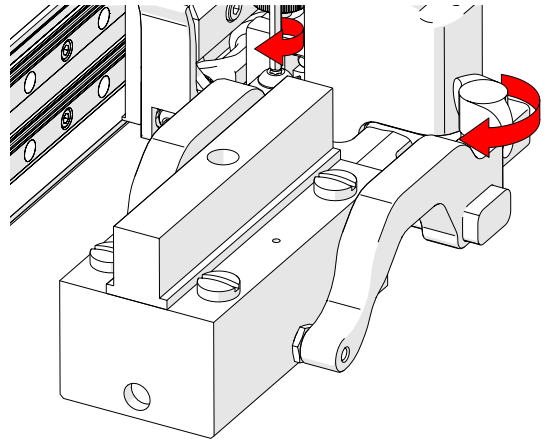

**Fig. 121** - Adjust inner arm
4. Loosen the arm clamp screw (*Fig. 121*).
5. Place the wedge on the pivot button of the inner probe holder arm (*Fig. 121*).